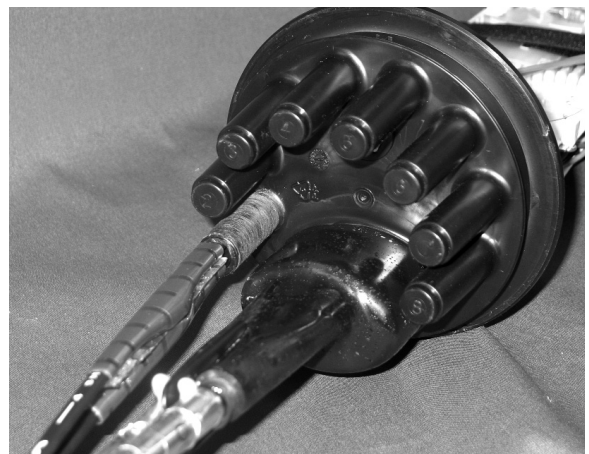

Figure 7
7. Wrap SCOP on each cable at the end of the port. Correct orientation is indicated on the back of the SCOP (Figure 7).